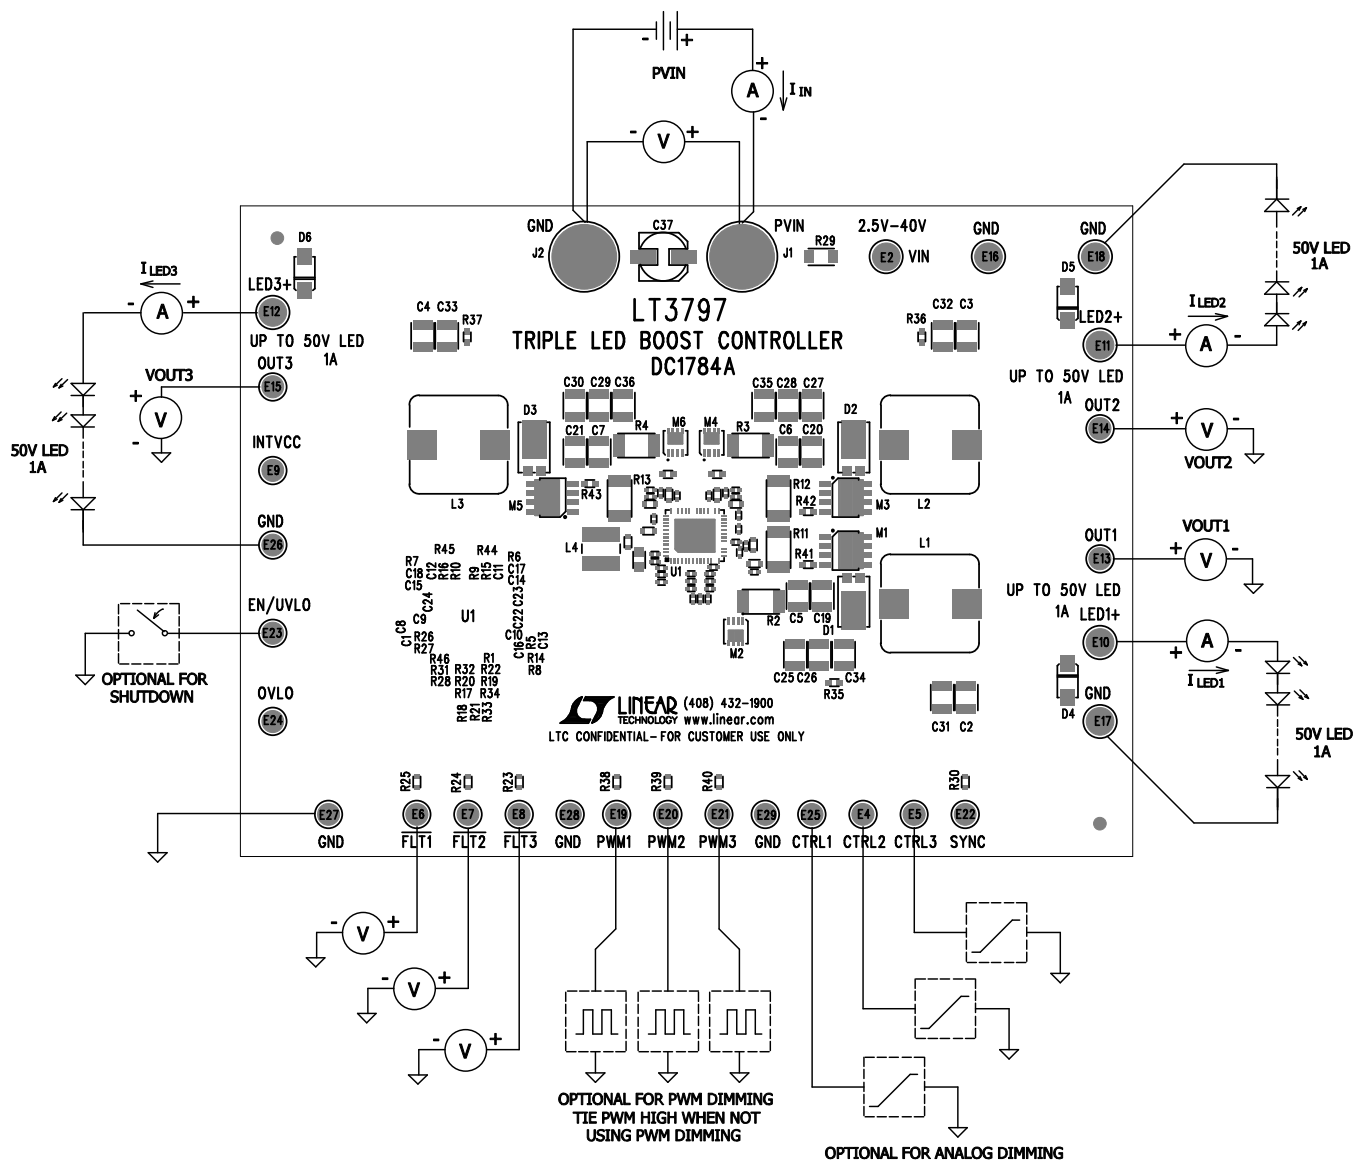

Figure 1. Test Procedure Setup Drawing for DC1784A
1. Connect three strings of LEDs that will run with forward voltage less than 50V (at 1A), but greater than PVIN, to the LED⁺ and GND terminals on the PCB as shown in Figure 1.